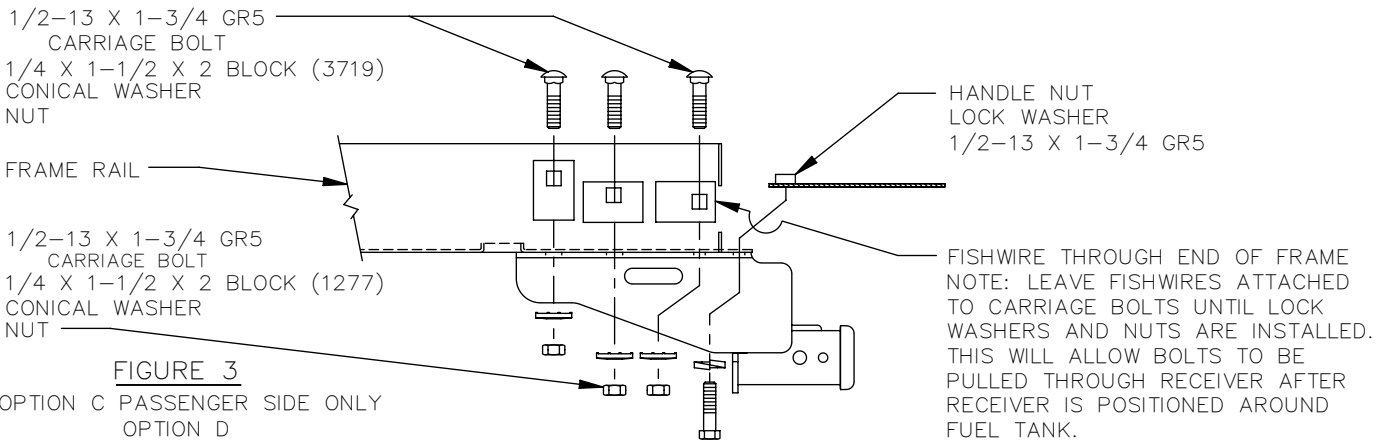

FIGURE 3
- A. REMOVE TOW HOOK AND TOW HOOK BRACKET; RETURN COMPONENTS TO VEHICLE OWNER. MOUNT DRIVER'S SIDE OF RECEIVER USING M12 BOLTS AS SHOWN IN FIGURE 1. MOUNT PASSENGER SIDE OF RECEIVER AS SHOWN IN FIGURE 3.
OPTION D – SEE FIGURE 3
- A. FISHWIRE 1/4 X 1-1/2 X 2 BLOCKS (1277 & 3719) AND 1/2 X 1-3/4 GR5 CARRIAGE BOLTS THROUGH END OF FRAME AND INTO EXISTING HOLES. RAISE HITCH INTO POSITION AND ATTACH PER FIG. 3.